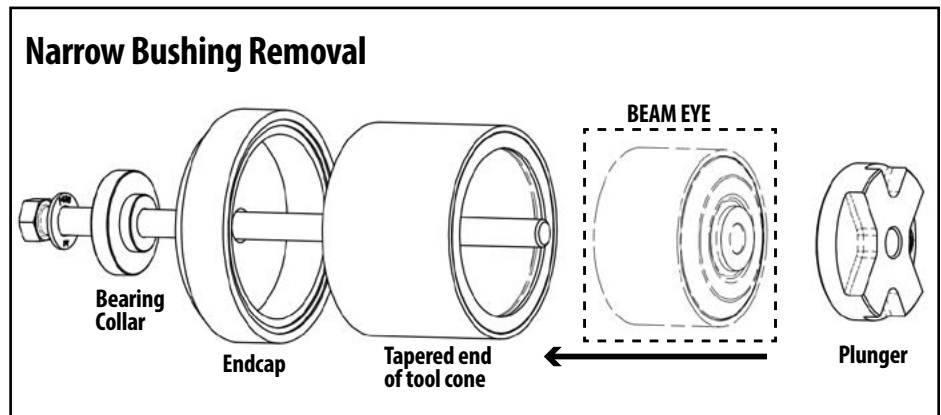

Figure 6.
Apply Lubricant (P/N 1980014) to HHCS and bearing threads. Thread the flat washer, the bearing collar and the endcap onto the HHCS until the bearing collar and endcap rest against the HHCS head. Place the open end of the bushing tool cone onto the endcap (Figure 6).
1. Push hex-head cap screw through the bushing inner sleeve until tool cone is against the beam eye. Thread plunger onto HHCS until tool cone is held firmly against the beam (Figure 6).